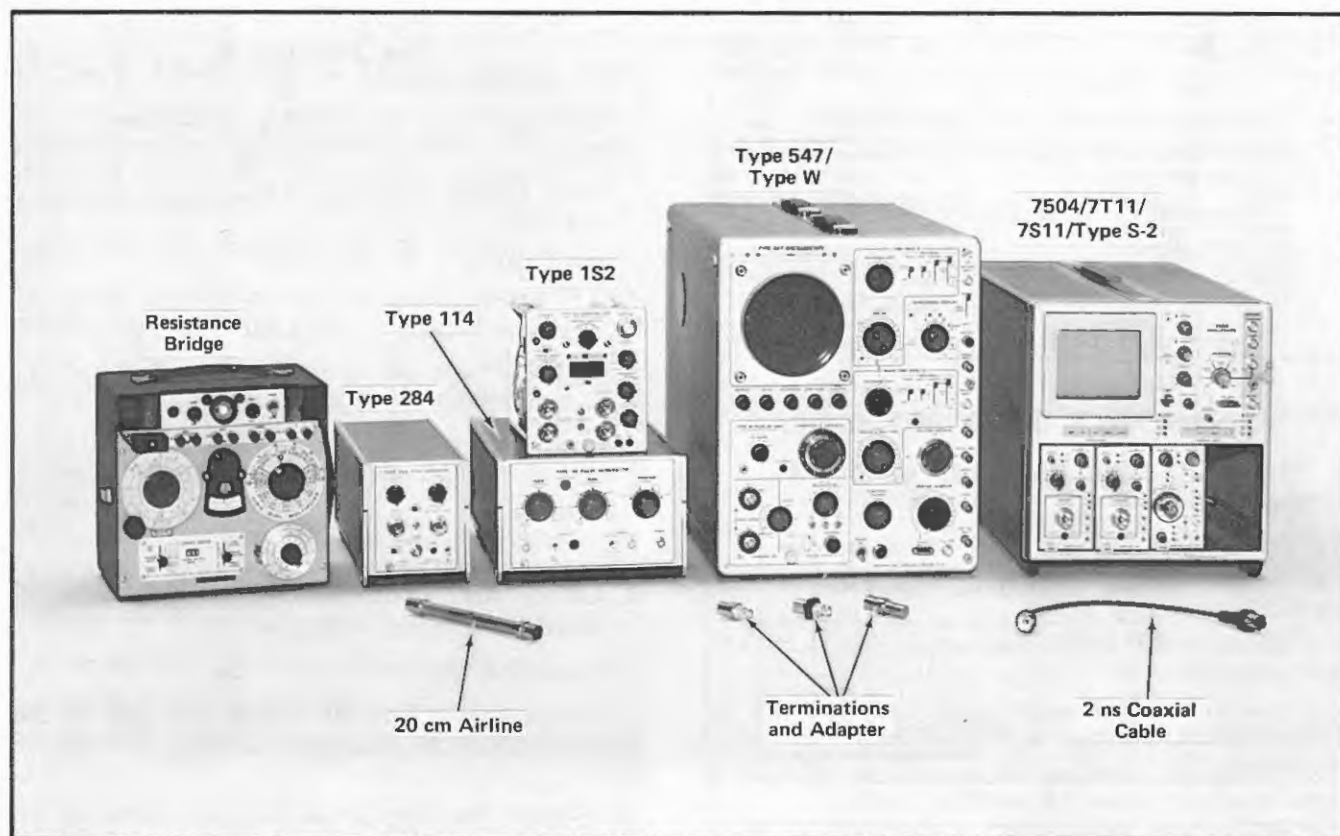

Fig. 5-1. Equipment Required.
The following (or equivalent) items of equipment are required for a complete calibration of the 7M11. The equipment is illustrated in Fig. 5-1. If substitute equipment is used, its accuracy must exceed the tolerances to be measured by at least 4 times in order to make an accurate measurement.
9.  $50\text{-}\Omega$  2X attenuator with GR connectors. Tektronix Part No. 017-0080-00 (not shown in Fig. 5-1).
11.  $50\text{-}\Omega$  coaxial cable, 18 inches, with BNC connectors. Tektronix Part No. 012-0076-00 (not shown in Fig. 5-1).
12. 12 inch patch cord with banana plug connectors (not shown in Fig. 5-1).
15. 3-mm male-to-BNC female connector adapter. Tektronix Part No. 015-1018-00 (not shown in Fig. 5-1).